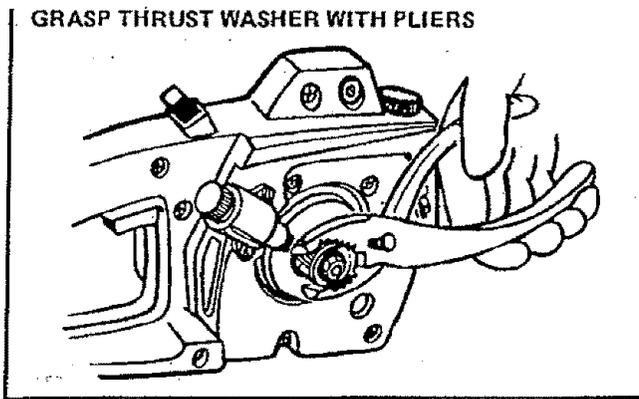

Figure 47
- b. Grasp the sprocket with pliers as shown in Figure 47.